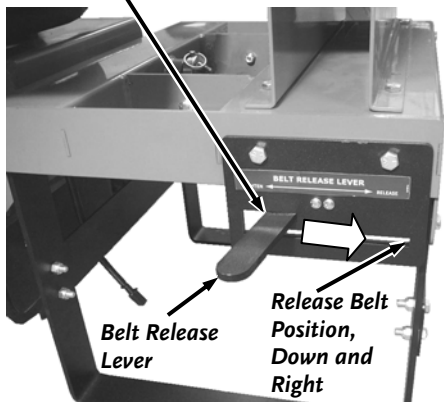

Figure 46
2. Make sure the Belt Release Lever is in the “Release” position (**Figure 46**).